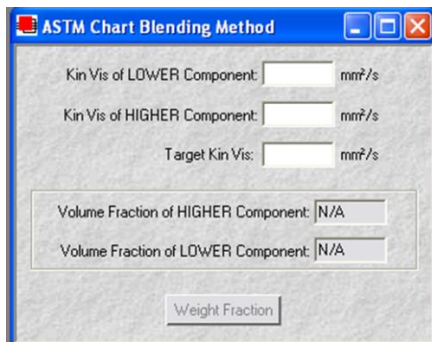

Figure 10: Chart Blending Method Window
1. To access the module, click Applications, then Blending, then select Chart Blending Method. This opens the Chart Blending Method window as shown in Figure 10.